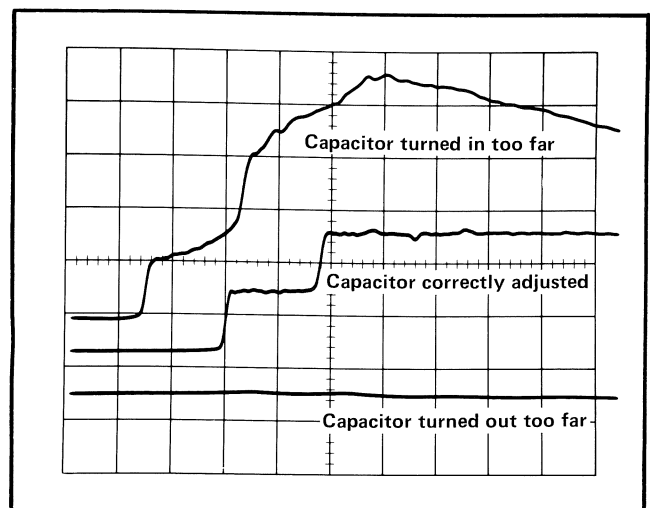

Fig. 6-10. Pulser waveforms showing the effects of C587 adjustment (Step 8).
h. Carefully turn the 1/4 inch connector adjust nut with the wrench clockwise until the pulse step is distorted when the tip of the center conductor touches the resistor body but do not force (see Fig. 6-10 top waveform) and then slightly back off to obtain an undistorted waveform (see Fig. 6-10 middle waveform). This waveform is the result of the incident pulse and the reflected pulse. The pulse is lost when the adjustment is backed off too much (see Fig. 6-10 bottom waveform). The lock nut should be partially tightened during this adjustment.